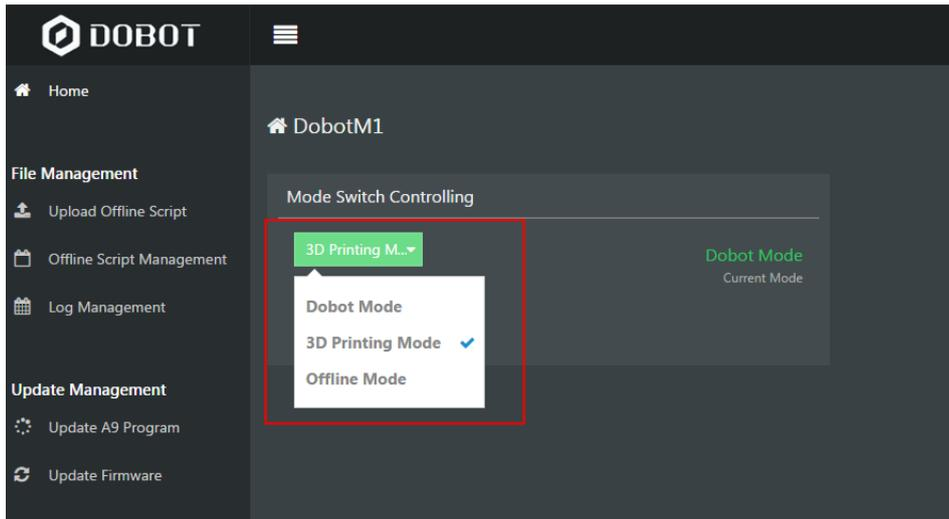

Figure 1.7 Mode switch
Step 10 Select **3D Printing Mode** from the drop-down list on the **Mode Switch Controlling** pane of the **Home** page, as shown in Figure 1.7.